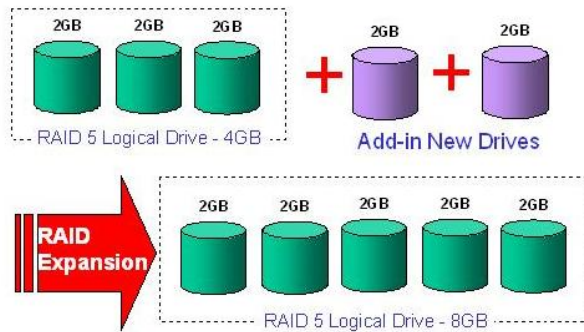

Figure 9-6: RAID Expansion Mode 1
Mode 1 Expansion is illustrated in **Figure 9-6** and involves adding more hard disk drives to a logical drive, which may require that the purchase of an enclosure with more drive bays. The data will be re-striped onto the original and newly added disks.
In *Figure 9-6* above, new drives are added to increase the capacity of a 4-Gigabyte (GB) RAID 5 logical drive. The two new drives increase the capacity to 8GB.